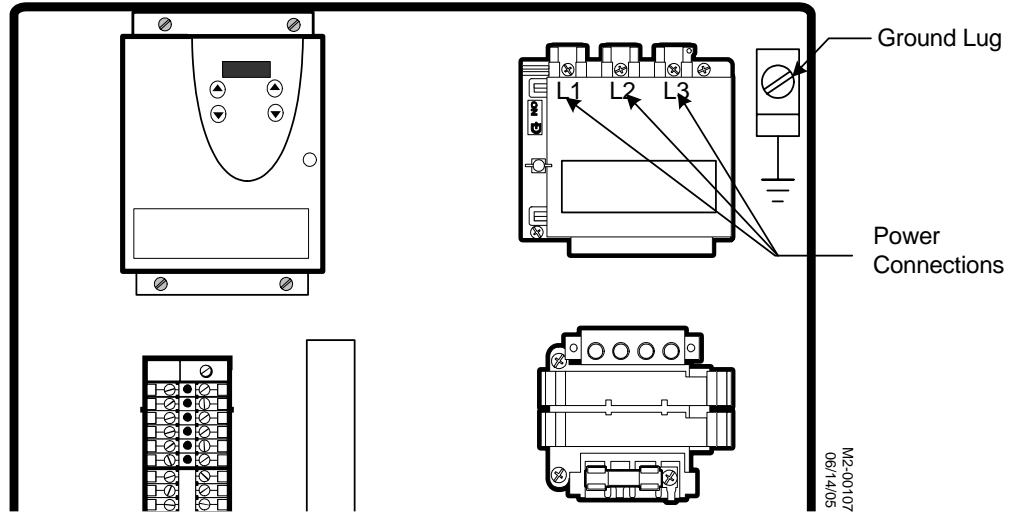

Figure 4-2: Power Connections in Control Box
1. Connect the incoming power. Run the wires (conduit) through the **bottom** of the Control Box, up the left side, and connect them into the fused disconnect. See Figure 4-2.